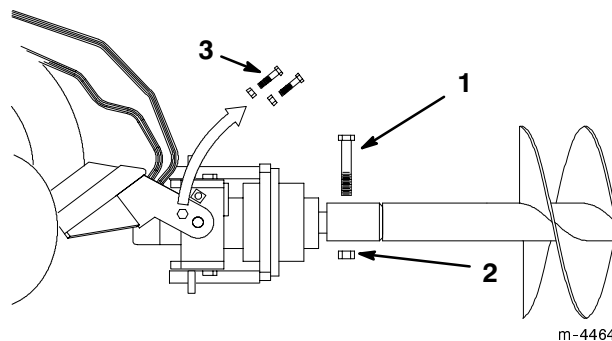

Figure 6
11. Secure the auger to the drive head with the 7/8"-9 x 4-1/2" bolt and 7/8"-11 nut (Fig. 6).
12. Remove the bolts and nuts from the cradle arms that were installed in step 3 and 5 (Fig. 6).